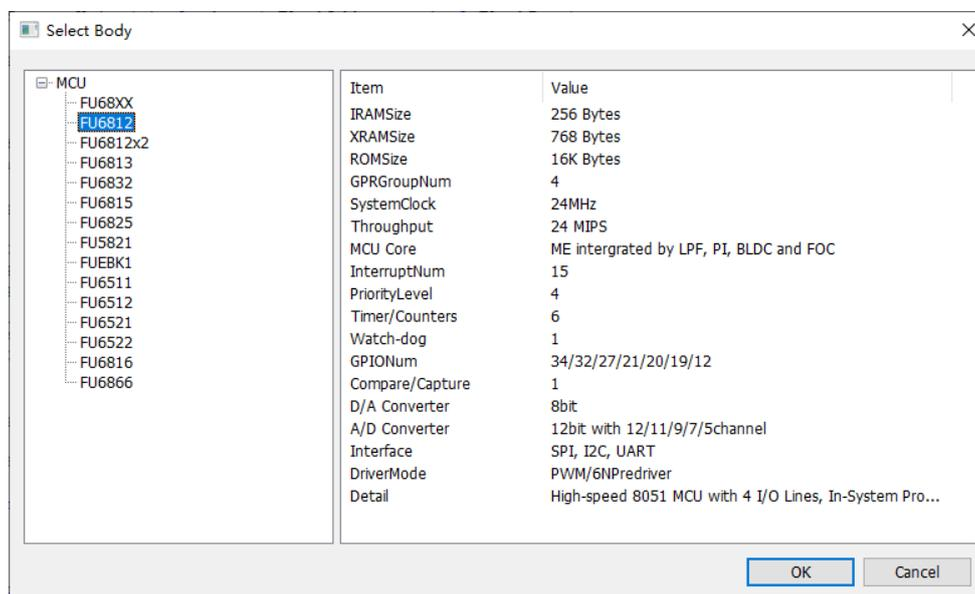

Figure 1-49
- Body Name: If you want to change the Body of the created project, you can click on the Body Name to change it, and the “SupportBody” displays the supported chip sub models, as shown in Figure 1-49.